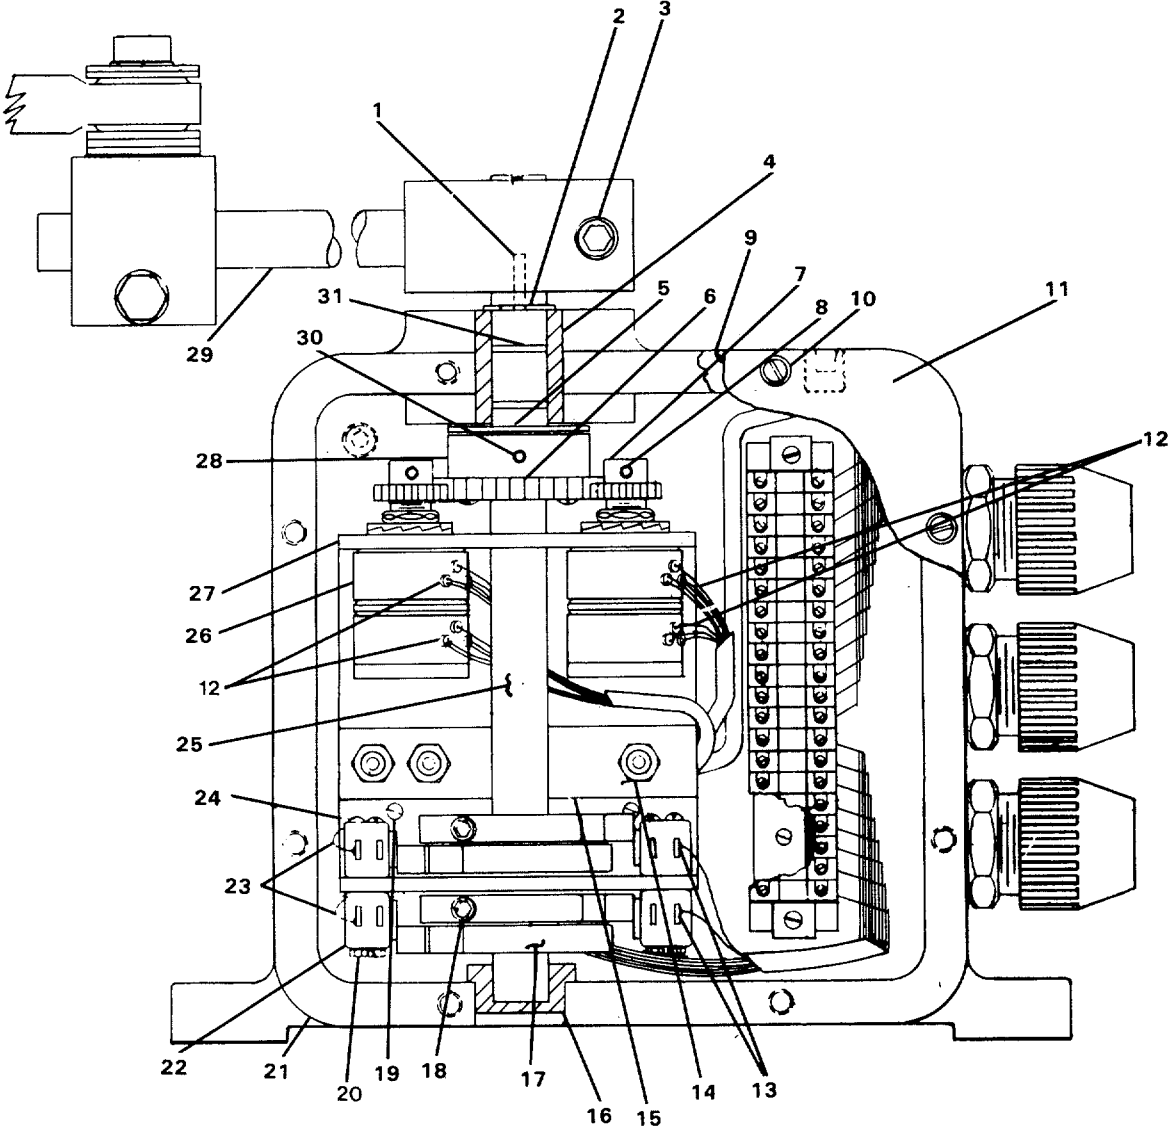

FIGURE 3-1. Followup Unit.
**MAINTENANCE OF STEERING GEAR SYSTEM****3-8. Repair Followup Unit. (FIGURE 3-1)**